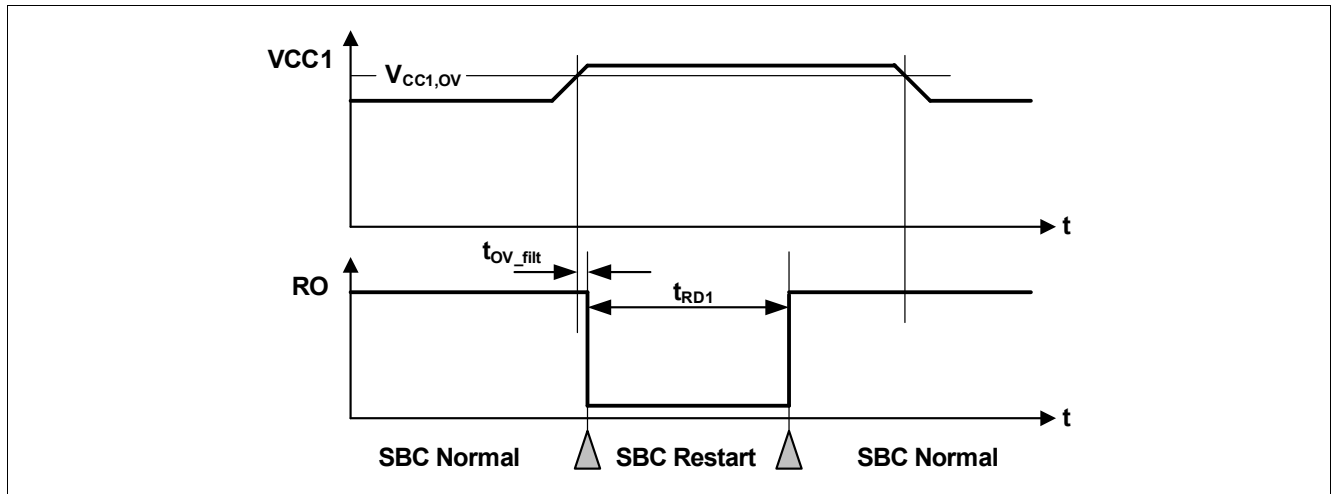

Figure 59 VCC1 Over Voltage Timing Diagram
- If the bit **VCC1\_OV\_RST** is set and **CFGP** = '1', then SBC Restart Mode is entered. The FOx outputs are activated. After the reset delay time ( $t_{RD1}$ ), the SBC Restart Mode is left and SBC Normal Mode is resumed even if the VCC1 over voltage event is still present (see also Figure 59). The **VCC1\_OV\_RST** bit is cleared automatically;